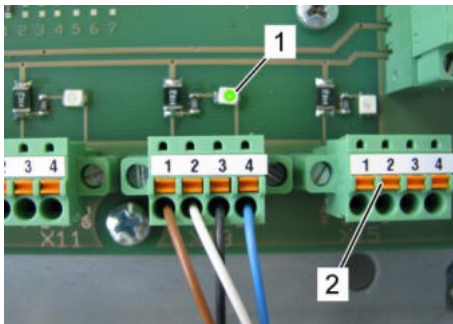

Fig. 112: Terminal box
2. ...please open the Terminal box and check all connected terminals for the respective LED (Fig. 112/1) being on.
3. If a LED is off remove the respective connector (Fig. 112/2).
- ↪ The LED (Fig. 112/1) must be on.